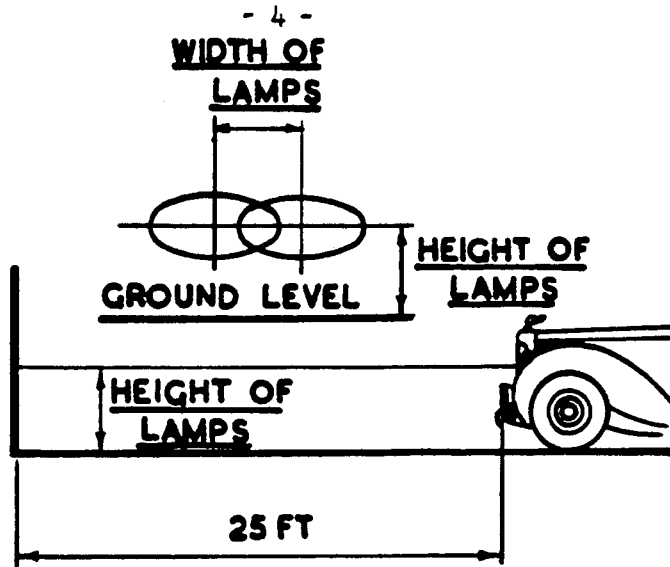

FIG. 3
8. Align lamps as shown in Fig. 3.